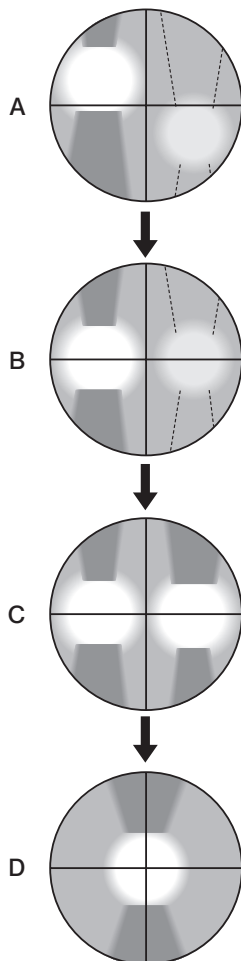
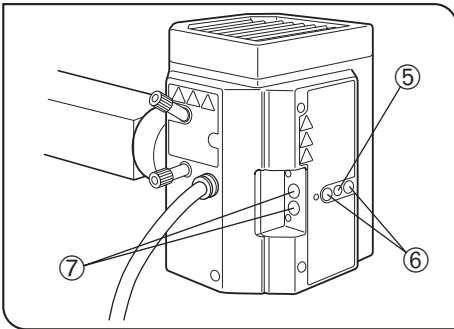

Fig. 7
Fig. 8
1. Close the shutter by sliding the shutter knob ① to position marked ●.
7. Open the shutter by setting the shutter knob ① to position marked ○.
8. While looking into the eyepieces, turn the collector lens focusing knob ④ to project the arc image and mirror arc image on the U-CST (A in Fig. 7).
9. Bring the arc image on the center of the right (or left) half of the field by turning Turn the burner centering knobs ② ③ (B in Fig. 7).
10. Insert the Allen screwdriver into the mirror focusing screw ⑤ (Fig. 8) on the rear panel of the lamp housing and turn the screw to focus on the mirror arc image (C in Fig. 7).
11. Overlay the arc image with the mirror arc image by turning the burner centering knobs ② ③ (D in Fig. 7).
Precise Centering of the Mirror (Fig. 8)